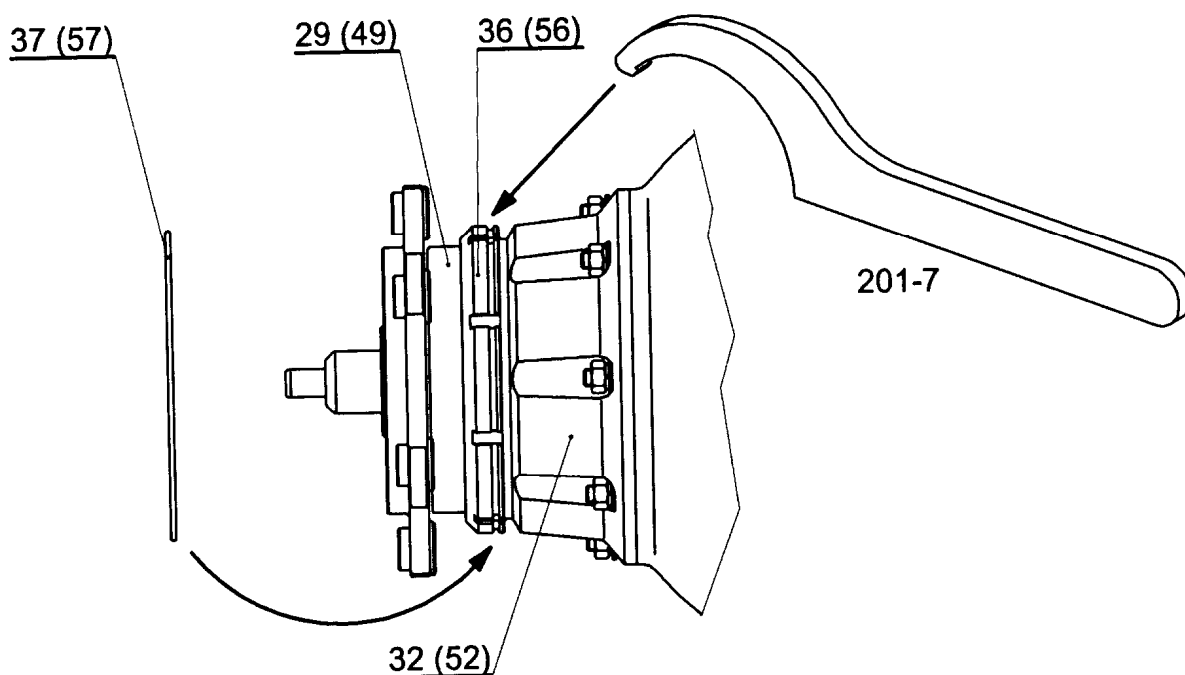

Fig.214 Fastening and securing of gufero nut
- (10) After installing rotor flange (25) to the sleeve (34) replace GUFERO (29) and install sliding nut (36) to the distributor thread, screw the nut and slightly tighten by the wrench (201-7) (see Fig.214).
- (11) Set the hole for the wire (37) against one of marks on the distributor (32) during tightening of the sliding nut (36)
- (12) Install wire (37) to the slot in sliding nut (36) and insert its nose to the hole in nut and distributor.
- (13) Tighten the rotor by the nut (30) to the shaft by means of tightening assembly consisting of wrench (201-3), mounting tube (201-9), extension piece (201-16) and torque stick (201-12). (specified torque moment see tab. 202).
- (10) Insert floating sleeve (46) with sealing O-rings (48) to the distributor, remove clamping plates and push the floating sleeve to the end inserting its feathers in slots of the distributor.
- (11) Before flange installation lubricate slightly engine shaft cone by recommended graphite lubrications (see tab. 203), inner surface of the sliding sleeve lubricate by recommended oil (see tab 203) and check if the wire (57) sliding nut (56) and GUFERO (49) are fitted with the flange.
- (12) Install flange (45) to the sliding sleeve on the engine shaft.
- (13) After installing flange to the sleeve replace GUFERO (49) and install sliding nut (56) to the distributor thread, screw the nut and slightly tighten by the wrench (201-7) (see fig.214).